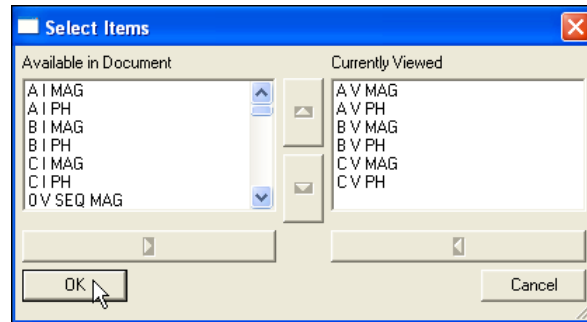

Figure 9.1: Basic Data Selection Screen
PSCSV™ has a filtered view function so that you can limit the number of items in the viewing window. Lets suppose you want to view A-phase voltage and current and nothing else. When you first start the Basic broadcast, you will see all data items that will more than fill up the viewing window. To limit the number of parameters, follow the guidelines below. Also, you may arrange the order of viewed parameters. See Figure 9.1
1. From the PSCSV™ Toolbar, Select View > Filter Data, and you will see the window shown shown in Figure 9.1.